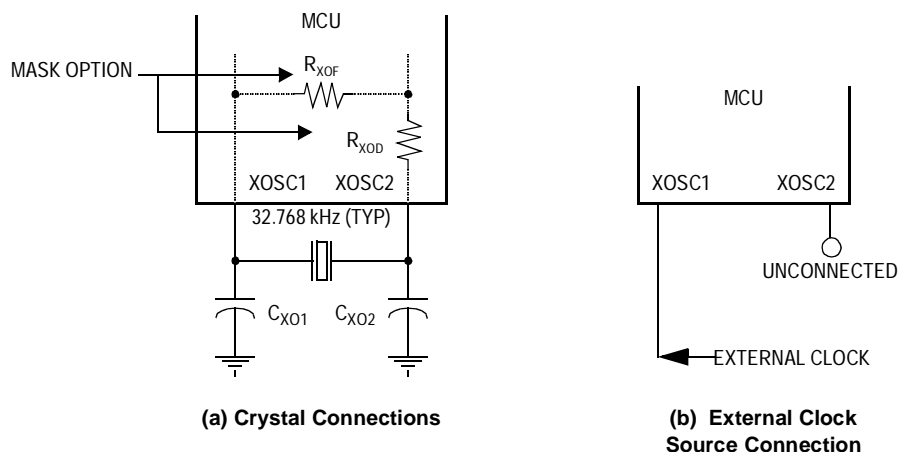

Figure 1-5. Oscillator Connections
1. A crystal as shown in Figure 1-5\(a\)
2. An external clock signal as shown in Figure 1-5\(b\)
The circuit in Figure 1-5\(a\) shows a typical 2-pin oscillator circuit for a 32.768-kHz “watch” crystal. The crystal manufacturer’s recommendations should be followed, since the crystal parameters determine the external component values required to provide maximum stability and reliable startup. The load capacitance values used in the oscillator circuit design should include all stray capacitances. The crystal and components should be mounted as close as possible to the pins for start-up stabilization and to minimize output distortion. An internal startup feedback resistor of R_{XOF} between XOSC1 and XOSC2 and a
As shown in Figure 1-5\(b\), an external clock from another CMOS-compatible device can be connected to the XOSC1 input (with the XOSC2 output not connected). This configuration is possible regardless of the oscillator setup.